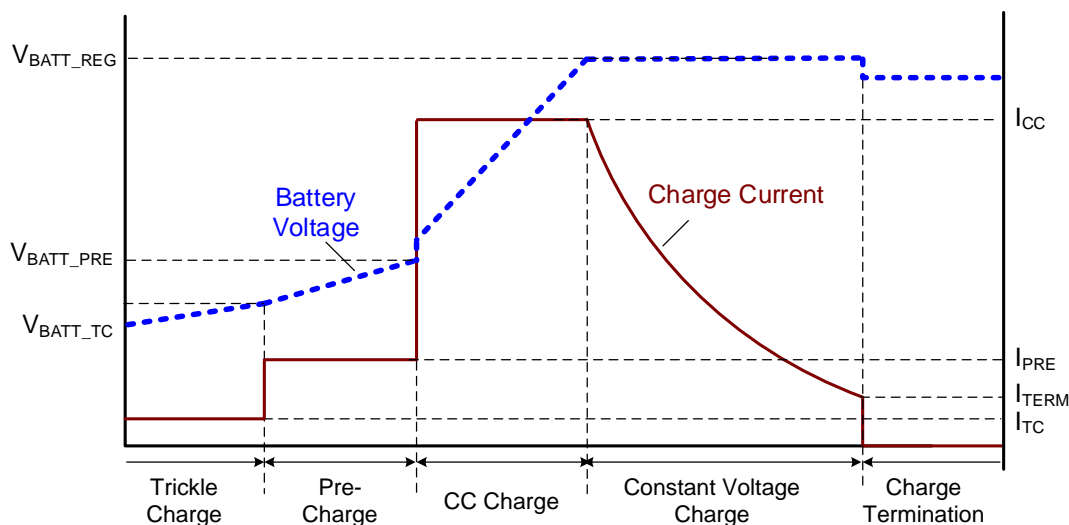

Figure 5: Charge Profile
The device provides four main charging phases: constant current trickle charge, constant pre-charge, constant current (CC) fast charge, and constant voltage (CV) charge (see Figure 5).